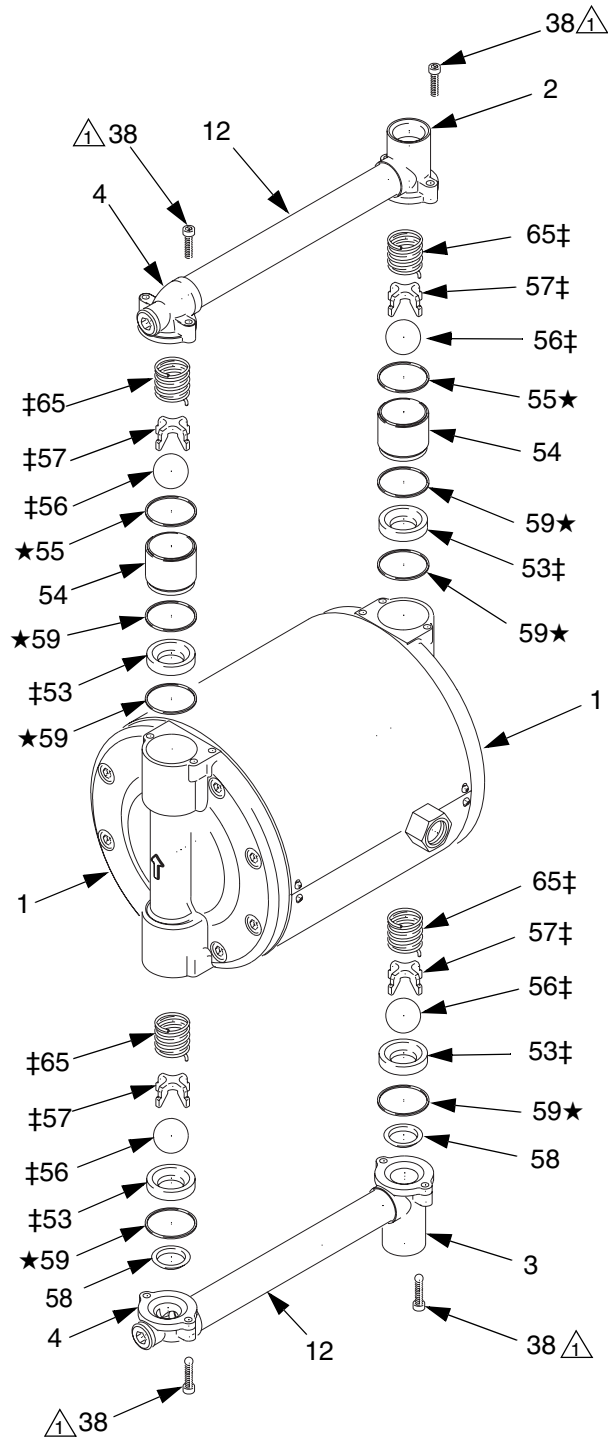

FIG. 8. Replace the Ball Check Valves
2. Remove the screws (38) and take the tube assemblies off the pump. See FIG. 8.
3. Remove the springs (65), ball guides (57), and balls (56) from the outlet (top) check valves.
The outlet ball check valves must be installed exactly as shown in FIG. 8:
The inlet ball check valves must be installed exactly as shown in FIG. 8: